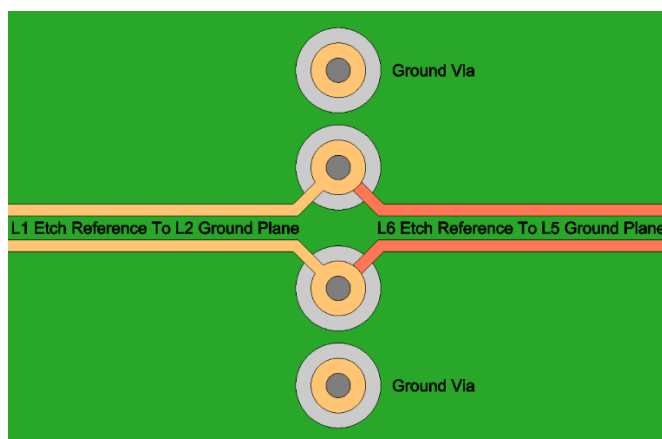

Figure 15.1. Ground Vias Implementation
5. High speed signals that transition from one layer to another should have a corresponding transition ground if both reference planes are ground. If the reference on the other layer is a V_{CC} plane, then a stitching capacitor should be used (ground to V_{CC}). See Figure 15.1 for details.